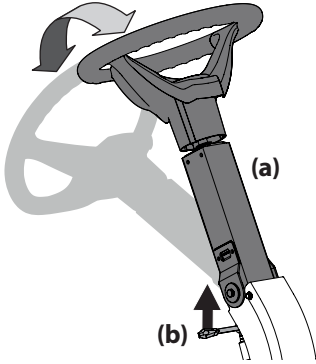

Figure 8
1. To tilt the steering wheel column (a) forward, lift the steering column adjustment lever (b), place the steering wheel column (a) in the desired position and then release the steering wheel column adjustment lever (b) to secure the steering wheel column in place. See Figure 8.